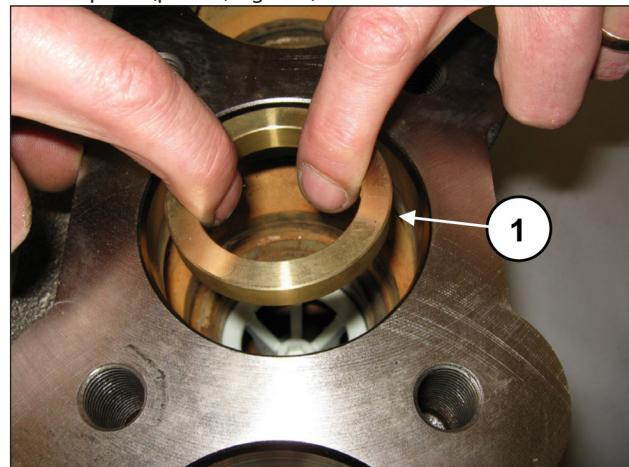
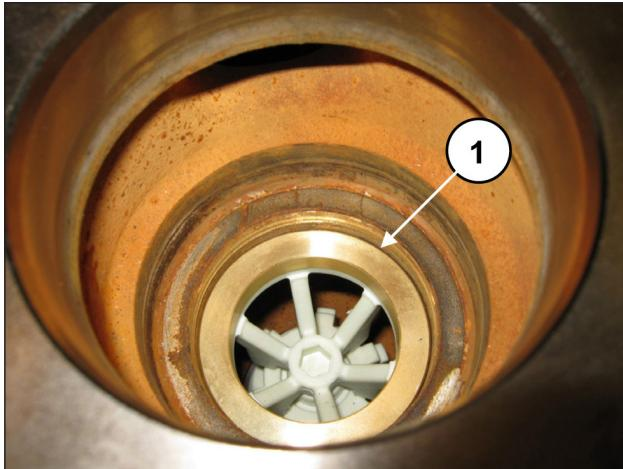

Fig. 117
Fig. 118
Insert the valve housing spacer ring (pos. ①, Fig. 117), resting on the spacer (pos. ①, Fig. 118).